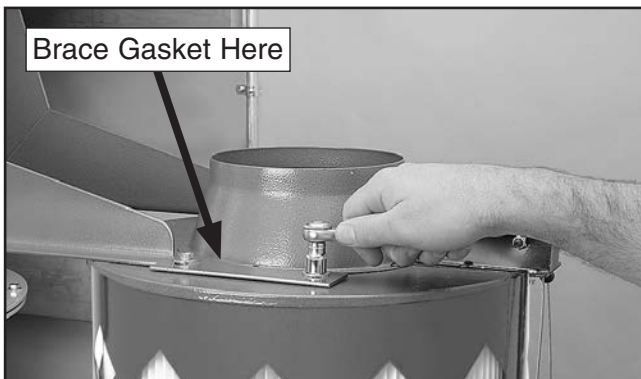

Figure 15. Mounting filters to braces.
12. Mount filter to L-braces with brace gaskets between them, as shown in **Figure 15**, using (4) $\frac{5}{16}$ "-18 x $\frac{3}{4}$ " hex bolts and $\frac{5}{16}$ " fender washers.